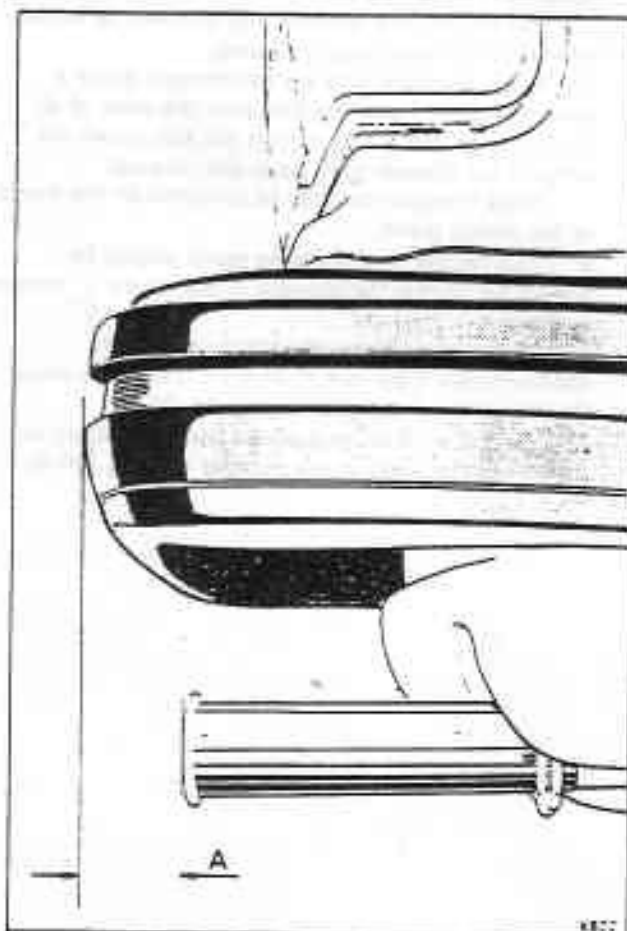

Fig. Q4-4 Tailpipe finisher setting
6. Set the tailpipe finishers 65 mm (2.560 in) in from the outer edge of the bumper (see fig. Q4-4).